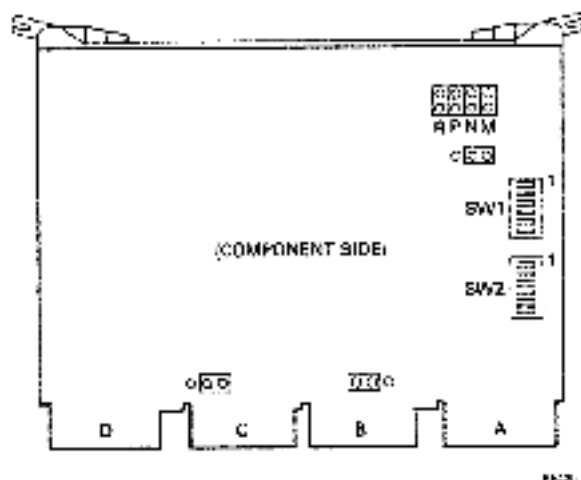

Figure B-1 M7551-AA Jumper and Switch Locations
4. Check new PCB jumper/switch positions (see Figure B-1)